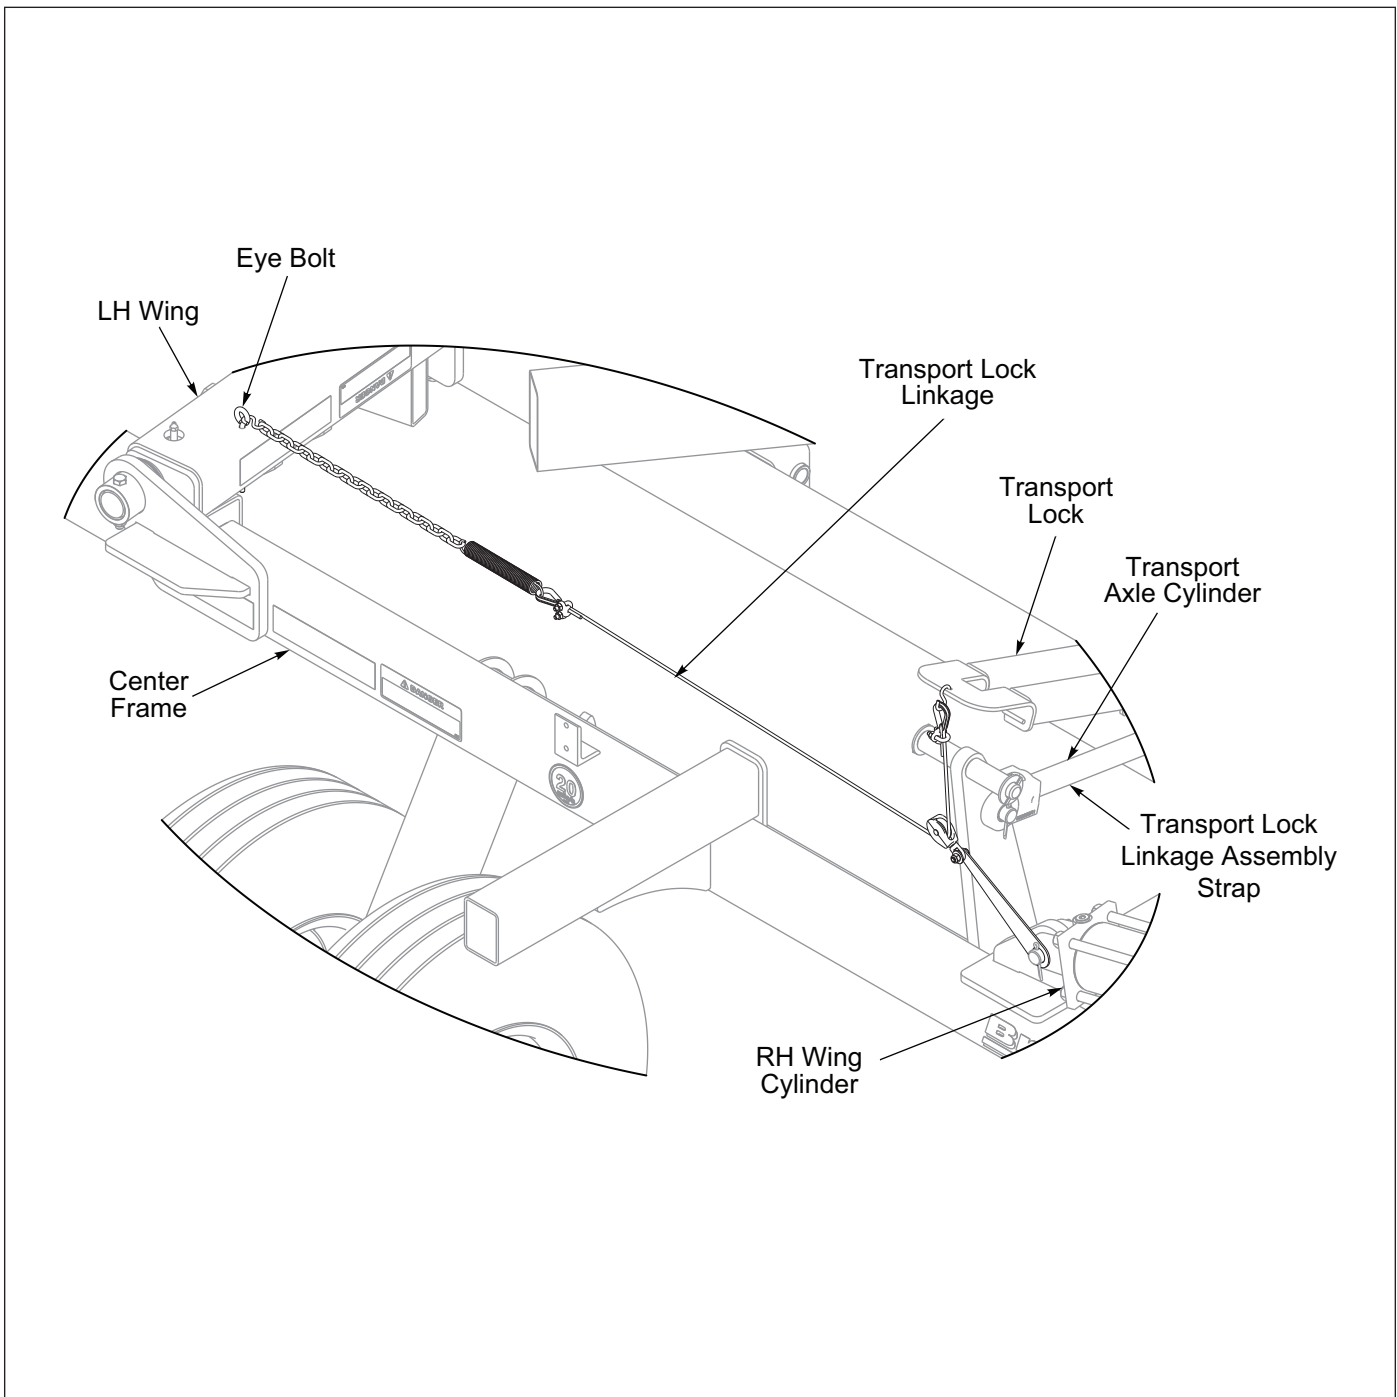

Figure 2-15: Transport Lock Linkage
On the Right Hand Cylinder do not spread the Cotter Pins at this time. **See Figure 2-15.** The Transport Lock Linkage Strap will be assembled on the Cylinder Pin.
1. At the rear of machine on the Right Hand Cylinder Lug place the Transport Lock Linkage Assembly Strap on the Fold Cylinder Base Pin and against the Cylinder Base Clevis, secure with Cotter Pin. **See Figure 2-15.**